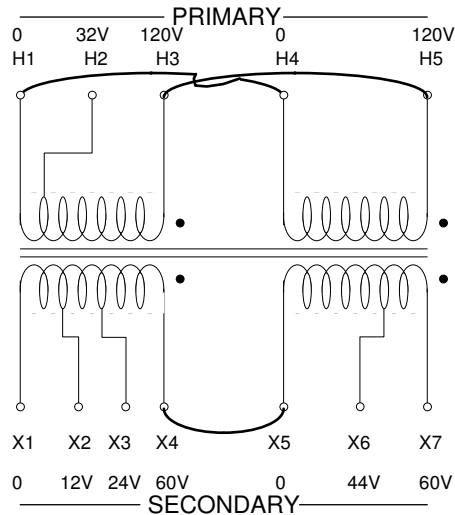

Figure 2 - Transformer Primary and Secondary Configurations.
- 2.1 Read the specification sheet (in the equipment manual at the bench) for Model T-100-3A transformer, pay attention to the ratings of this transformer. Document the ratings (V, I, S and turns ratio) of the transformer for the configuration of Figure 2. Note that the primary is made up of two windings that are rated at 120 V and are connected in parallel, while the secondary is also two windings that are rated at 60 V and are connected in series.